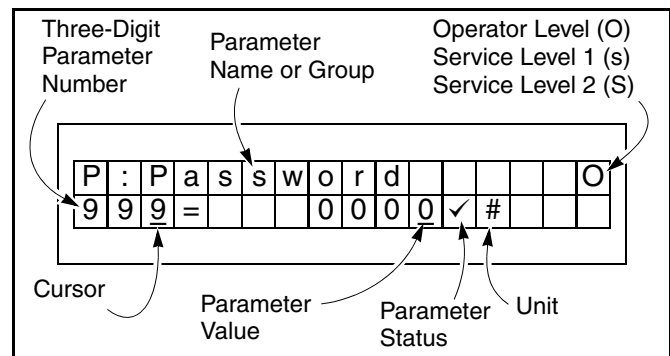

Figure 24
2. To access Service Level 1 or Service Level 2, scroll to password parameter 999 (P.999). Then briefly press the reset (●) key. The cursor will jump from the three-digit parameter number over to the parameter value on the display. (See Figure 24.)